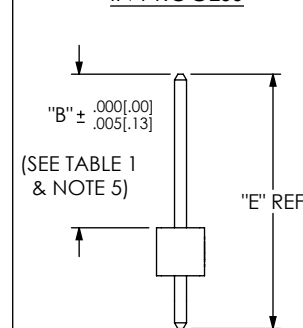

FIG 1
- LC: LOCKING CLIP (SEE FIG. 1) (SEE NOTE 8) [USE LC-08-TM-02] (-02 THRU -36 POS: 2 PER STRIP -02 POS: 1 PER STRIP)
[DIFFERENT AS SHOWN, OTHERWISE SAME AS FIG 1]